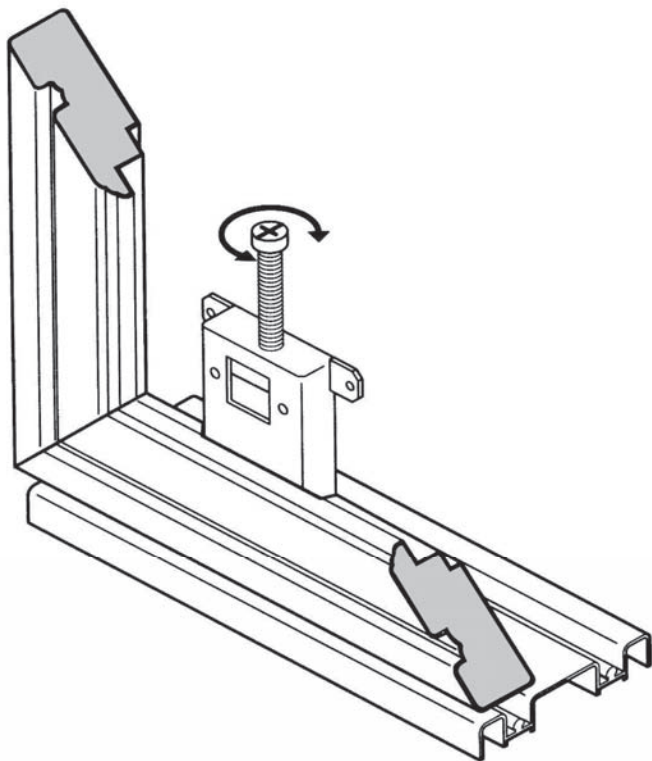

Figure 4
- A. Slide the front Panel (#1) to the side closest to the entrance door. Look at the space between the door edge and wall. You want the door edge and wall to be flush. If you see space at the top or bottom edge of Panel (#1), turn the adjusting screw on top of the Steel Wheel Assembly (#12) on the lower back of the Panel (#1) nearest the wall. Turn the screw left or right until the Panel (#1) is flush with the wall (See Figure 4).